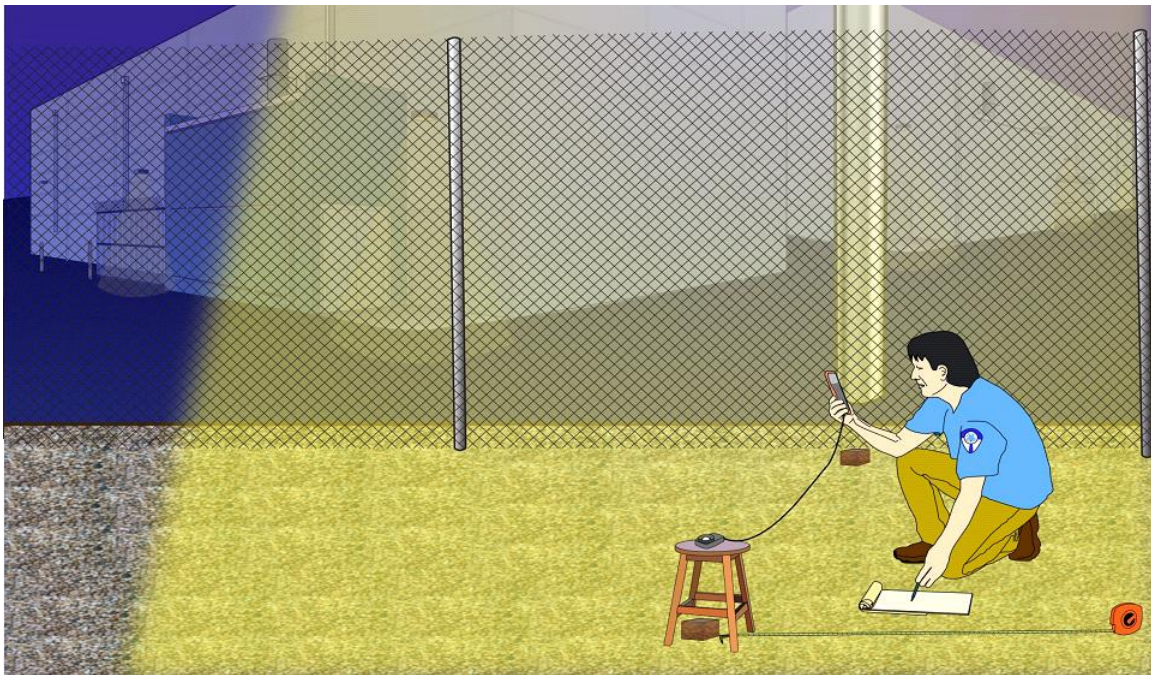

Figure 1: Example of Light Meter Setup.
2. Attach the light meter sensor to a 30-cm (12-in.) high pedestal. Figure 1 provides an example of the setup.